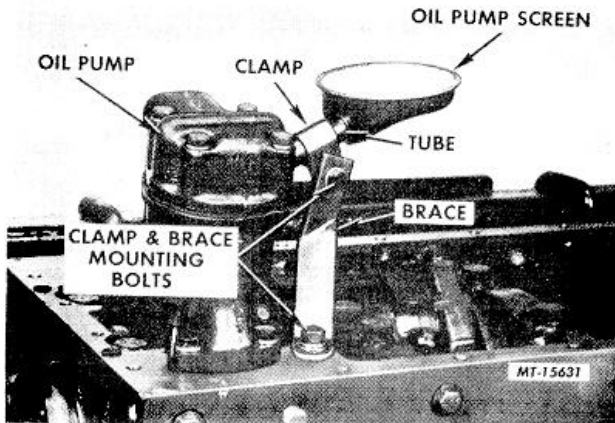

Fig. 162 Pump Screen Clamp and Brace Installation
- e. Install pump screen clamp and brace (Fig. 162). Tighten bolts evenly so that screen does not move.